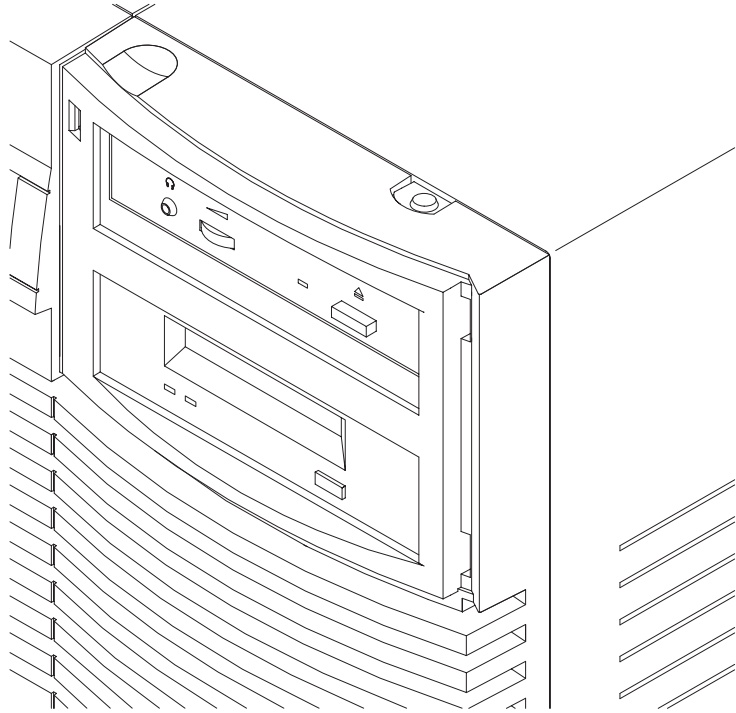

Figure 2-4. Disc Tray Closed
5. Gently push the disc tray in until it is closed, as shown in Figure 2-4.